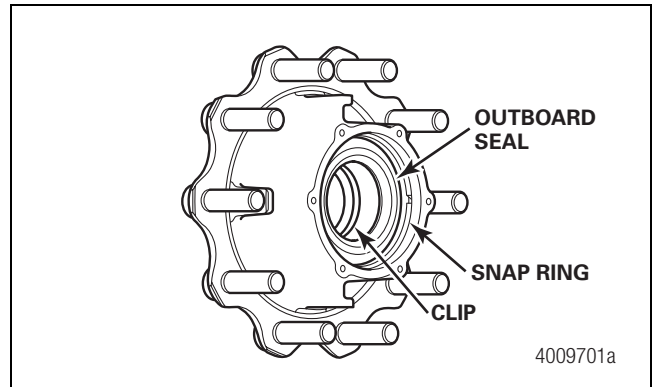
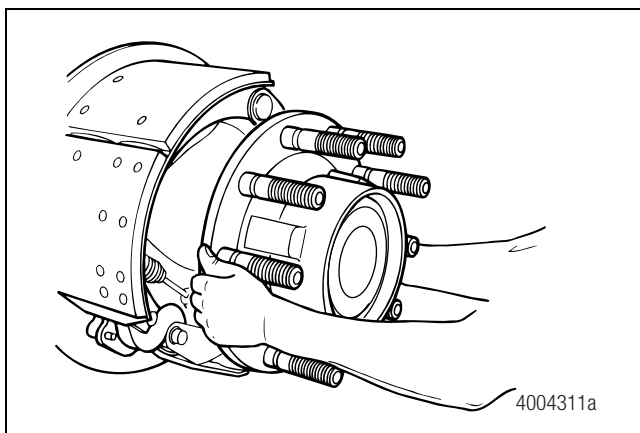

Figure 4.29
Figure 4.28
9. Pull the hub as straight as possible off the spindle to avoid dislodging the clip inside the hub bore. Figure 4.28 and Figure 4.29.